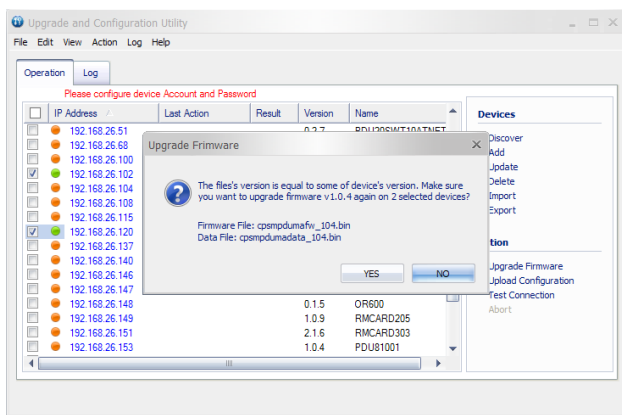

Figure 5
- Click **Yes** button starting to upgrade firmware on selected devices (Shown in Figure 5).